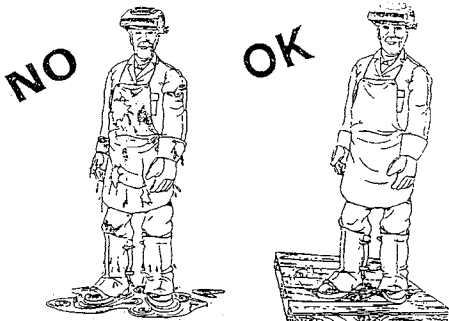

Fig.7
- increase personal protection, isolation from the ground and from the welding piece. (Fig.7)